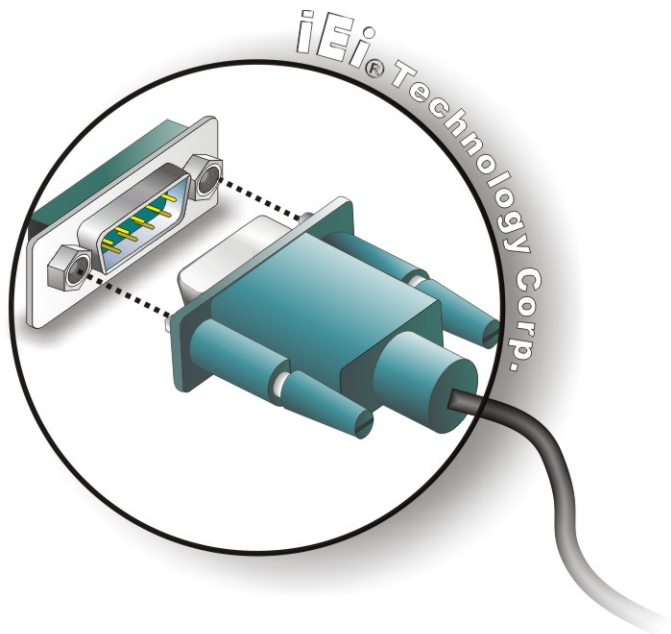

Figure 5-17: Serial Device Connector
Step 2: Insert the serial connector. Insert the DB-9 connector of a serial device into the DB-9 connector on the external peripheral interface. See Figure 5-17.